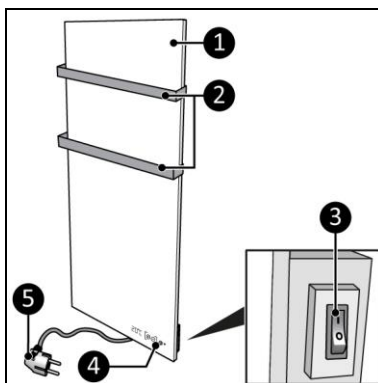
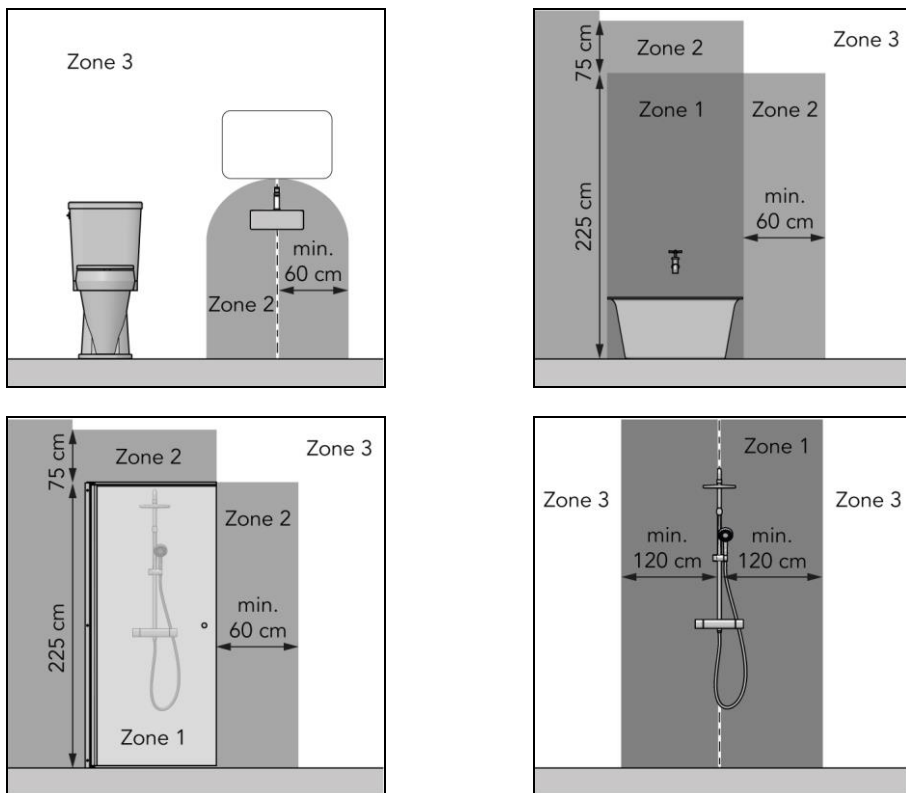

Figure 3
Figure 5
The Sani Wi-Fi (Figure 3) is an easy-to-use electric bathroom heater for use in zone 3 of the bathroom (Figure 5). The Sani Wi-Fi can be used with the Eurom Smart App.
- in zone 3 of a toilet room or bathroom with a bath, shower with screen and shower without screen (Figure 5);